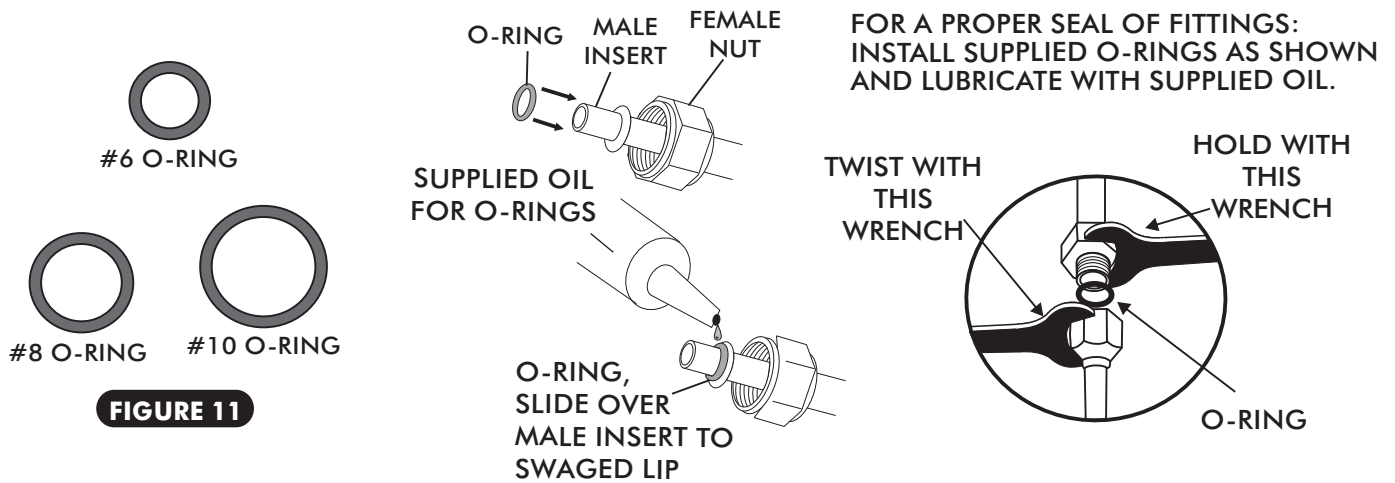
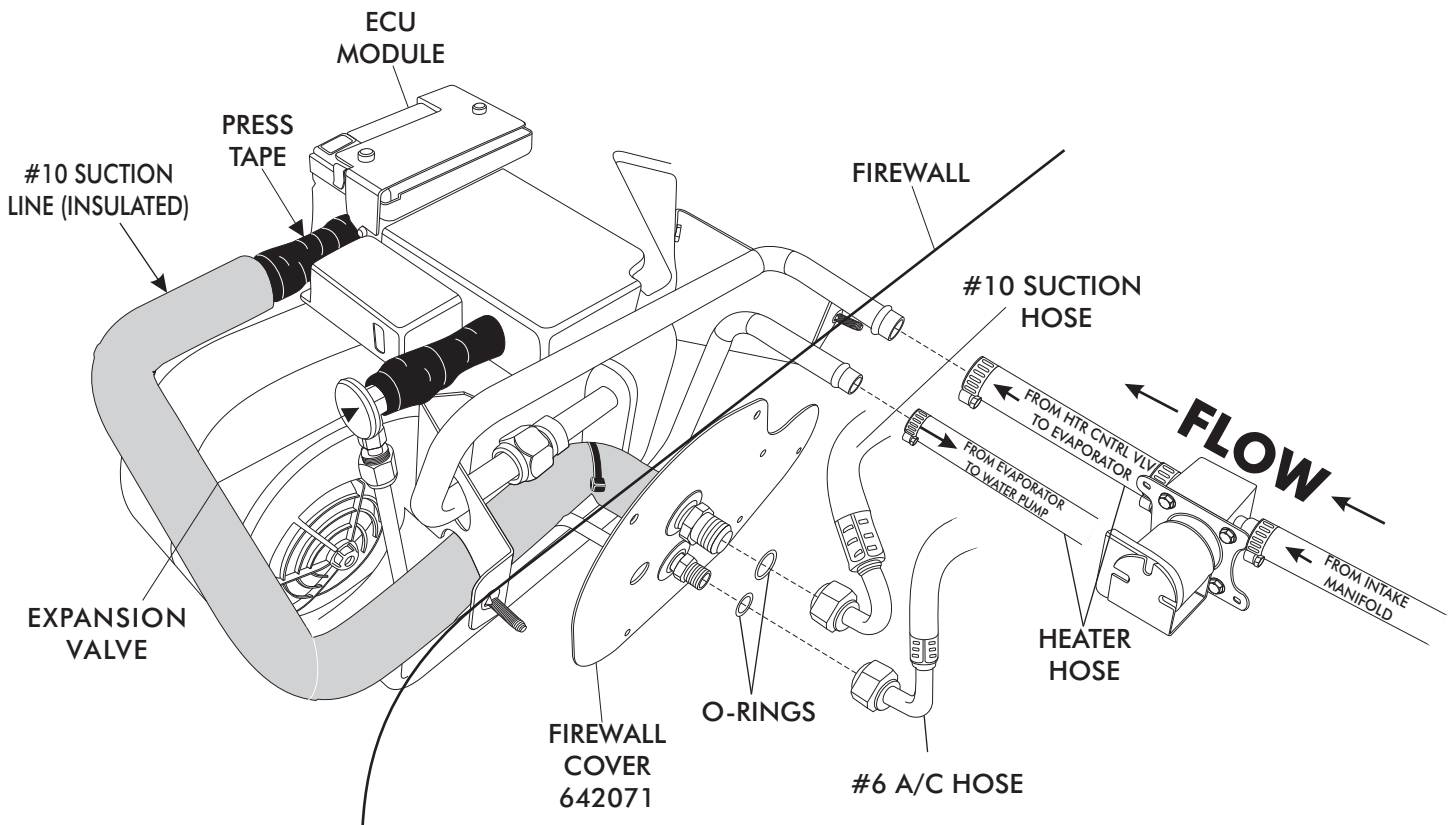
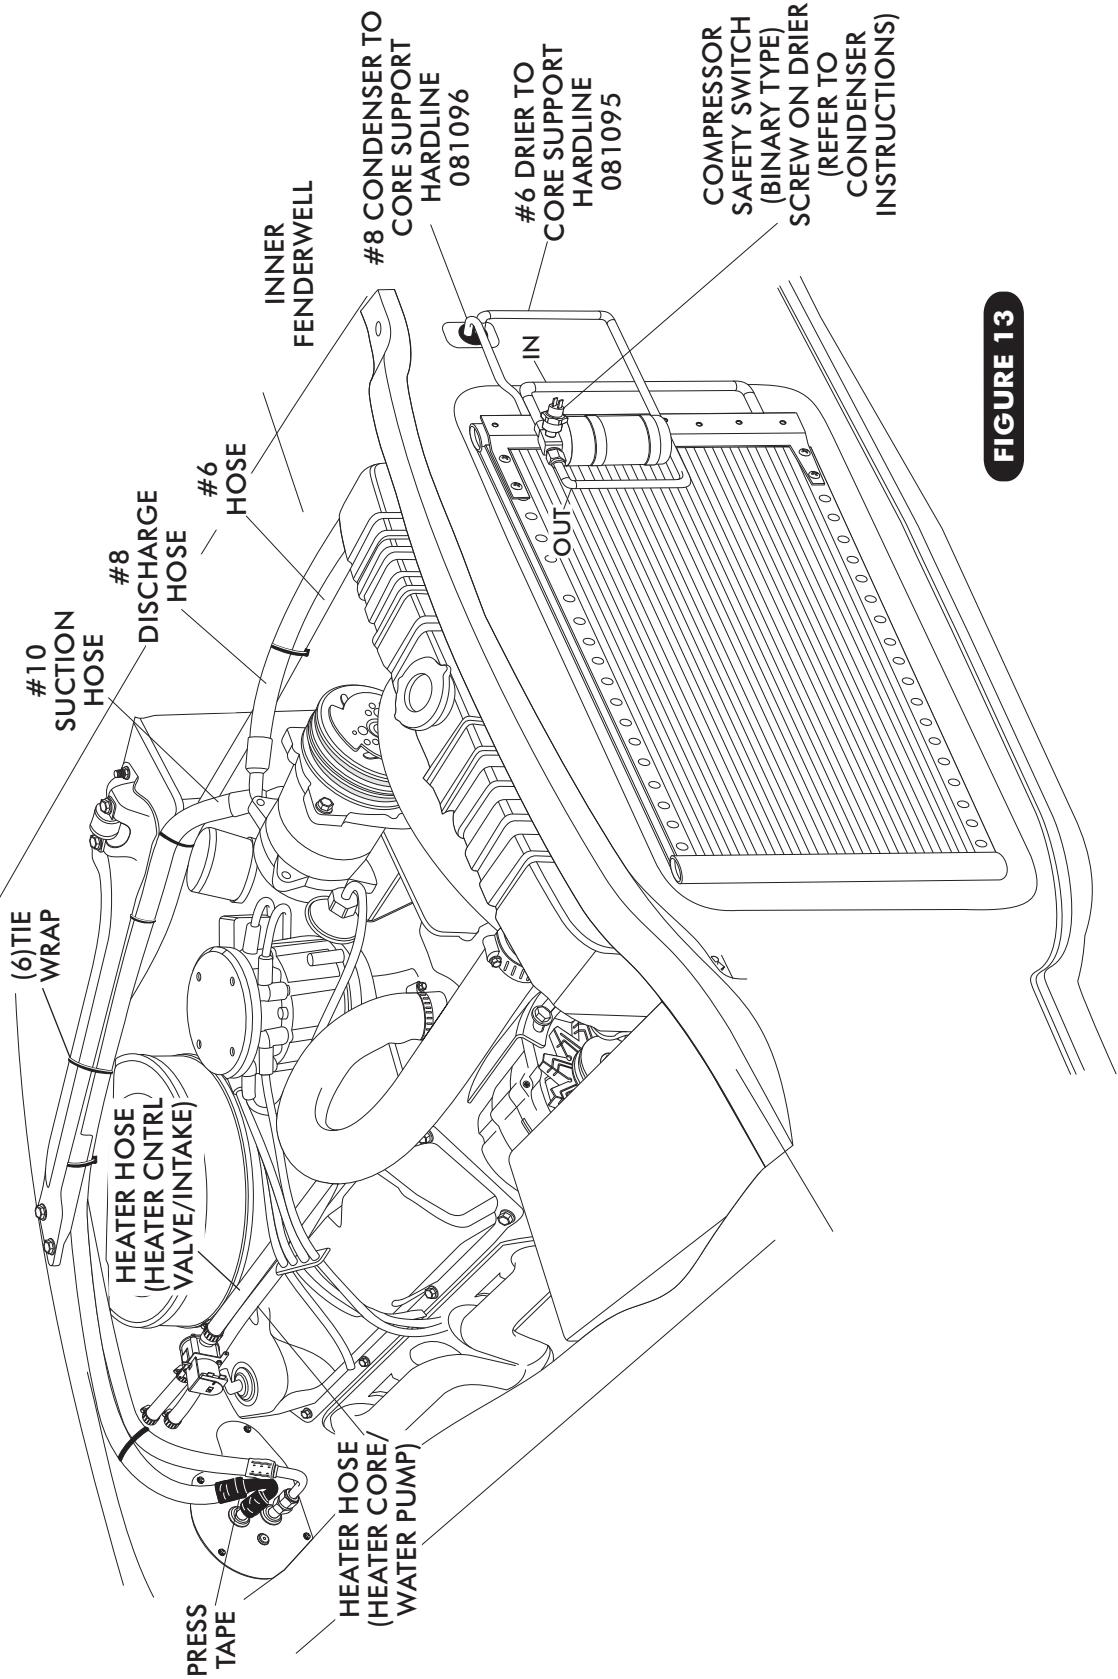

FIGURE 11
FIGURE 12
FIGURE 13
- ❑ ON A WORK BENCH, INSTALL EVAPORATOR REAR BRACKET AND HARDLINES WITH PROPERLY LUBRICATED O-RINGS. (SEE FIGURE 11, PAGE 12, AND FIGURE 16, PAGE 17.)
- LOCATE THE #8 COMPRESSOR A/C HOSE. LUBRICATE (2) #8 O-RINGS (SEE FIGURE 11, ABOVE) AND CONNECT THE 45° FITTING TO THE #8 DISCHARGE PORT ON THE COMPRESSOR. ROUTE THE STR FEMALE w/ 134a SERVICE PORT FITTING TO THE #8 CONDENSER HARDLINE COMING THROUGH THE RADIATOR CORE SUPPORT. SEE FIGURE 13, PAGE 14. TIGHTEN EACH FITTING CONNECTION AS SHOWN IN FIGURE 11 ABOVE.
- LOCATE THE #10 COMPRESSOR A/C HOSE. LUBRICATE (2) #10 O-RINGS AND CONNECT THE 90° FEMALE w/ 134a SERVICE PORT FITTING TO THE #10 SUCTION PORT ON THE COMPRESSOR, ROUTE THE 135° FEMALE FITTING TO THE #10 EVAPORATOR HARDLINE COMING THROUGH THE FIREWALL. SEE FIGURES 12, PAGE 13 & FIGURE 13, PAGE 14. TIGHTEN EACH FITTING CONNECTION AS SHOWN IN FIGURE 11 ABOVE.
(NOTE: WRAP THE #10 FITTING CONNECTIONS WITH PRESS TAPE. SEE FIGURE 12, PAGE 13 & FIGURE 13, PAGE 14.)
- LOCATE THE #6 EVAP/DRIER A/C HOSE. LUBRICATE (2) #6 O-RINGS AND CONNECT THE STR FEMALE FITTING TO THE #6 DRIER HARDLINE COMING THROUGH THE RADIATOR CORE SUPPORT. ROUTE THE 90° FEMALE FITTING TO THE #6 EVAPORATOR HARDLINE COMING THROUGH THE FIREWALL. SEE FIGURES 12, PAGE 13 & FIGURE 13, PAGE 14. TIGHTEN EACH FITTING CONNECTION AS SHOWN IN FIGURE 11, ABOVE.
- USE (6) TIE WRAPS TO SECURE THE #6 A/C HOSE TO THE EXPORT BRACE AS SHOWN IN FIGURE 13, PAGE 14.
- ROUTE A PIECE OF HEATER HOSE FROM THE WATER PUMP TO THE HEATER LINE COMING THROUGH THE FIREWALL AS SHOWN IN FIGURE 12, BELOW. SECURE USING HOSE CLAMPS.
- ROUTE A PIECE OF HEATER HOSE FROM THE INTAKE TO THE HEATER LINE COMING THROUGH THE FIREWALL AS SHOWN IN FIGURE 12 BELOW. NOTE: INSTALL HEATER CONTROL VALVE IN-LINE WITH INTAKE MANIFOLD (PRESSURE SIDE) HEATER HOSE, SECURE USING HOSE CLAMPS AS SHOWN IN FIGURE 12 BELOW. **NOTE PROPER FLOW DIRECTION.**